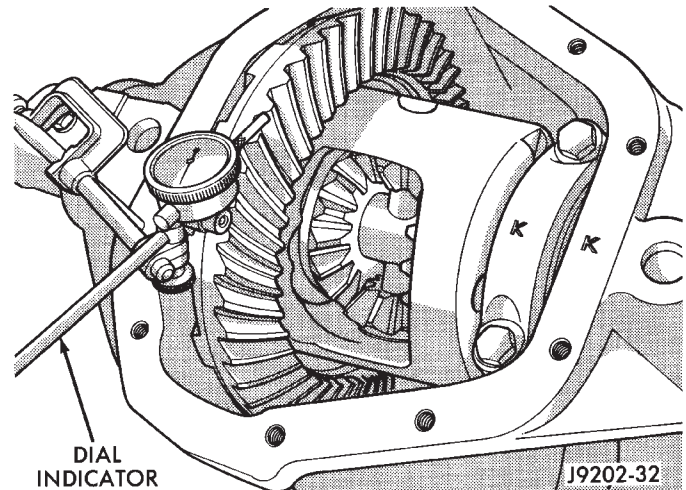
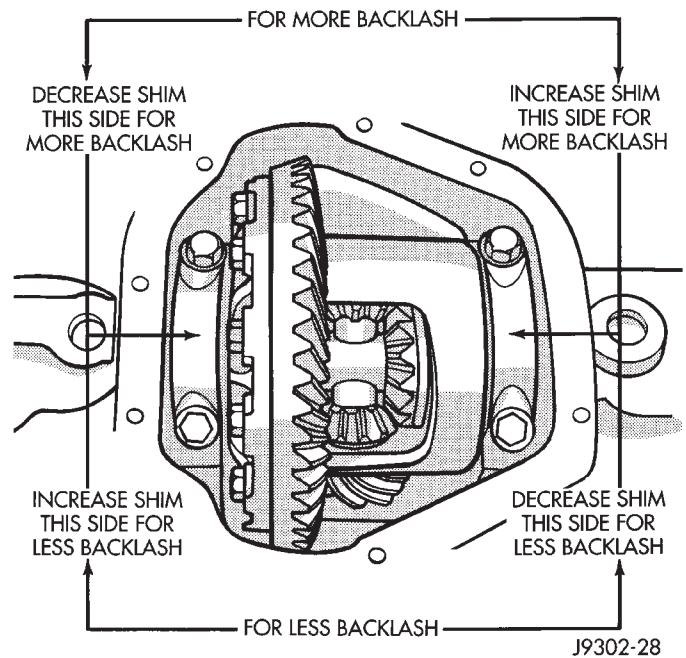

Fig. 73 Ring Gear Backlash Measurement
Fig. 74 Backlash Shim Adjustment
(23) Record dial indicator reading.
(24) Subtract 0.002 in. (0.05 mm) from the dial indicator reading to compensate for backlash between ring and pinion gears. This total is the thickness of shim required to achieve proper backlash.
(25) Subtract the backlash shim thickness from the total preload shim thickness. The remainder is the shim thickness required on the pinion side of the axle housing.
(26) Rotate dial indicator out of the way on guide stud.
(27) Remove differential case and dummy bearings from axle housing.
(28) Install new side bearing cones and cups on differential case.
(29) Install spreader W-129-B, utilizing some components of Adapter Set 6987, on axle housing and spread axle opening enough to receive differential case.
(30) Place side bearing shims in axle housing against axle tubes.
(31) Install differential case in axle housing.
(32) Rotate the differential case several times to seat the side bearings.
(33) Position the indicator plunger against a ring gear tooth (Fig. 73).
(34) Push and hold ring gear upward while not allowing the pinion gear to rotate.
(35) Zero dial indicator face to pointer.
(36) Push and hold ring gear downward while not allowing the pinion gear to rotate. Dial indicator reading should be between 0.12 mm (0.005 in.) and 0.20 mm (0.008 in.). If backlash is not within specifications transfer the necessary amount of shim thickness from one side of the differential housing to the other (Fig. 74).
(37) Verify differential case and ring gear runout by measuring ring to pinion gear backlash at several locations around the ring gear. Readings should not vary more than 0.05 mm (0.002 in.). If readings vary more than specified, the ring gear or the differential case is defective.